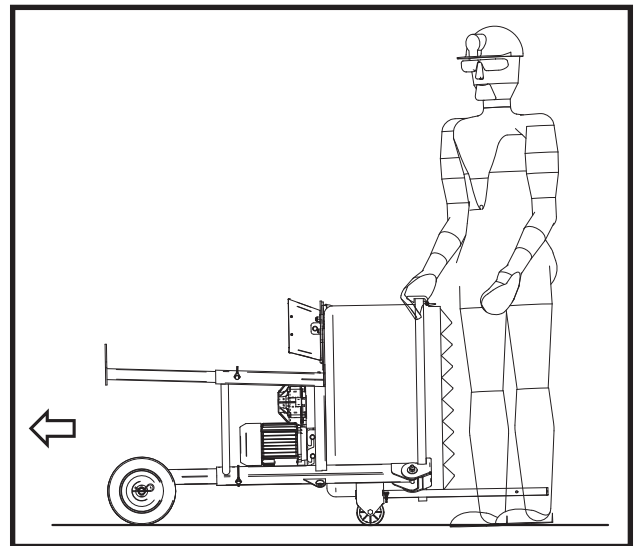

Fig.5
To close the outlet, return the lever (ref.1, fig.5) to position A.